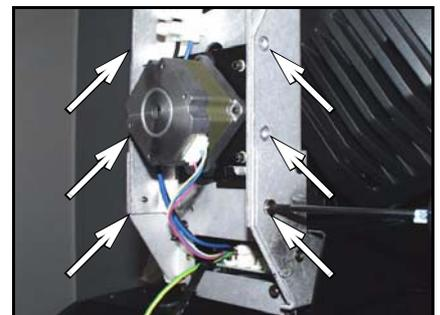

Fig. 86 Remove arm screws
- 8 Remove the 6 yoke arm screws. (Fig. 86) Pull the arm straight back off